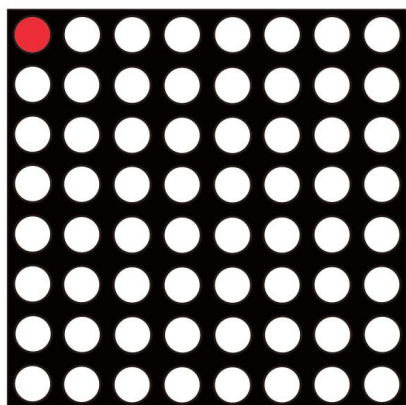
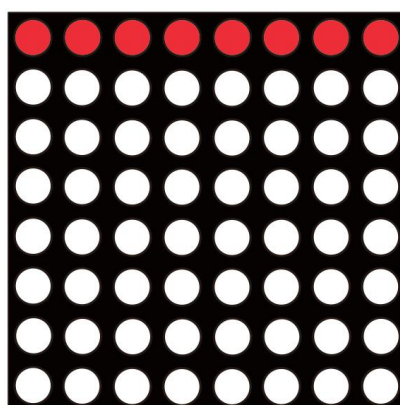

Figure 5
Figure 6
The 8 * 8 dot matrix is composed of 64 LEDs, and each LED is placed at the intersection of the row and column lines. When a row is set to 1 level and a column is set to 0 level, there will be an LED that will light up; For example, to light the LED in the upper left corner(Row1, Col1), ⑨ pin is connected to high level, ⑬ pin Connected to low level, the first point will light up, as shown in Figure 5. If you want to light the first row LEDs, the ⑨ pin should be connected to a high level, and the ⑬③④⑩⑥⑪⑮⑯ pins should be connected to a low level, then the first line will light as shown in Figure 6. If you want to light the first column LEDs, pin ⑬ should be connected to low level, and ⑨⑭⑧⑫①⑦②⑤pin should be connected to high level, then the first column LEDs will light up, as shown in Figure 7.